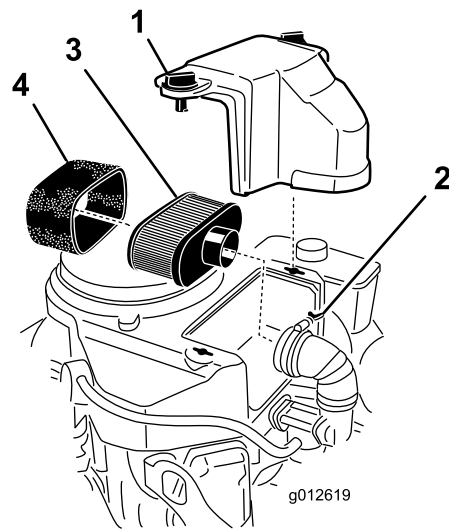

Figure 25
3. Clean around the air cleaner to prevent dirt from getting into the engine and causing damage (Figure 25).
4. Unscrew the cover knobs and remove the air cleaner cover (Figure 25).
5. Unscrew the hose clamp and remove the air cleaner assembly (Figure 25).
6. Carefully pull the foam element off the paper element (Figure 25).
1. Do not clean the paper filter, replace it (Figure 25).
1. Carefully slide the foam element onto the paper air cleaner element (Figure 25).
2. Place the air cleaner assembly onto the air cleaner base and secure it with the 2 wing nuts (Figure 25).
3. Place the air cleaner cover into position and tighten the cover knob (Figure 25).